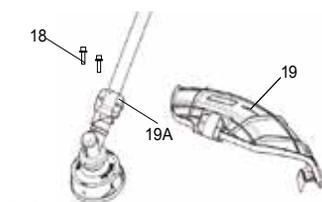

FIG. 7
1. Loosen the bolts with the hex key 6 mm (18) and remove them together with the washers , spring washer .
2. Please the safety guard (19) to bracket (19A). Secure the safety guard (19) with the hex key 6 mm. (Fig.7)